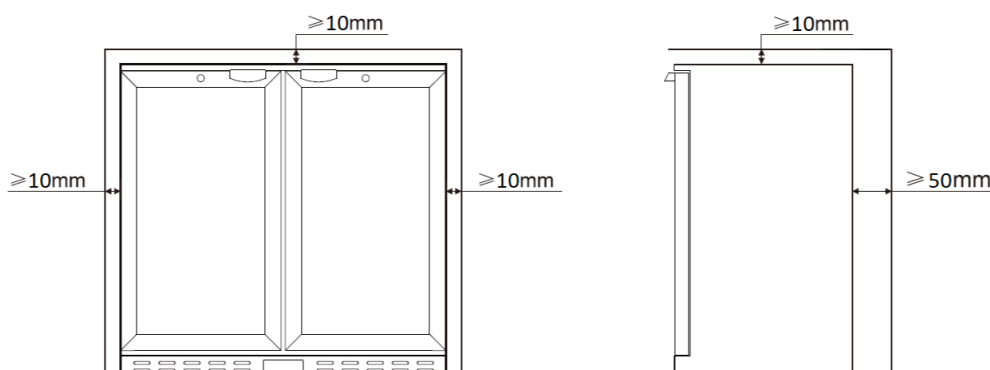

Figure 1
- As shown in Figure 1, the appliance must have a minimum ventilation gap of at least 10mm at sides, top and 50mm at the rear. (Models SGT1 and SGT2 must also have the rear spacers fitted to the compressor compartment rear cover. Note: Spacers are supplied with fitting instructions in a separate bag that has been placed inside the cooler). The front grille must be completely unobstructed. Please avoid placing it next to any source of heat or humidity such as a heater outlet, a glass washer or ice making machine. If installing within a run of several cabinets side-by-side, then it is advised to have them in individual compartments to avoid re-circulation of the waste hot air.